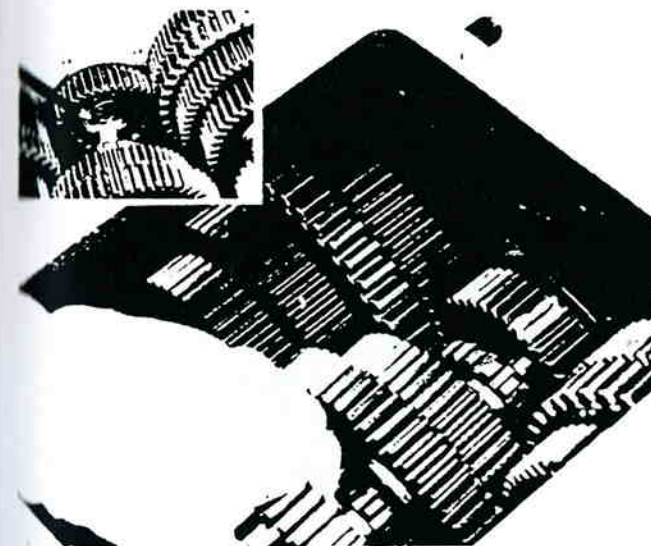

Figure 13-47. Freeing Pilot From Drive Gear Shaft Pocket.
1. With the right countershaft moved toward wall of case, pull the mainshaft to the rear to free pilot from pocket of drive gear shaft (figure 13-47).